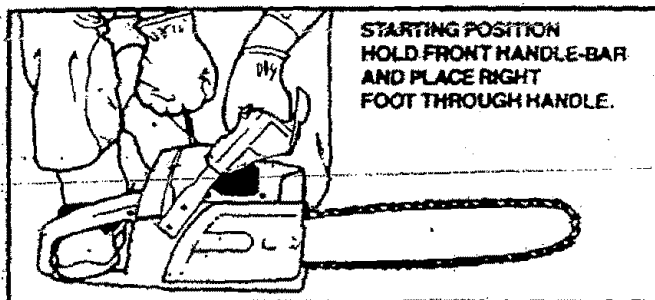

Figure 15
- a. Set the saw on flat ground making certain the saw chain is free to turn without contacting any object. Figure 15.